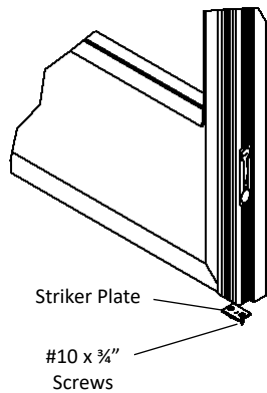

Fig. 12
1. After drilling bottom hole for flush bolt to latch into take the striker plate and position center hole of striker plate over center of hole drilled into bottom side of threshold. Use the (2) #10 x $\frac{3}{4}$ " Sq. Flat Stainless-Steel screws to secure striker plate. (Fig. 12)